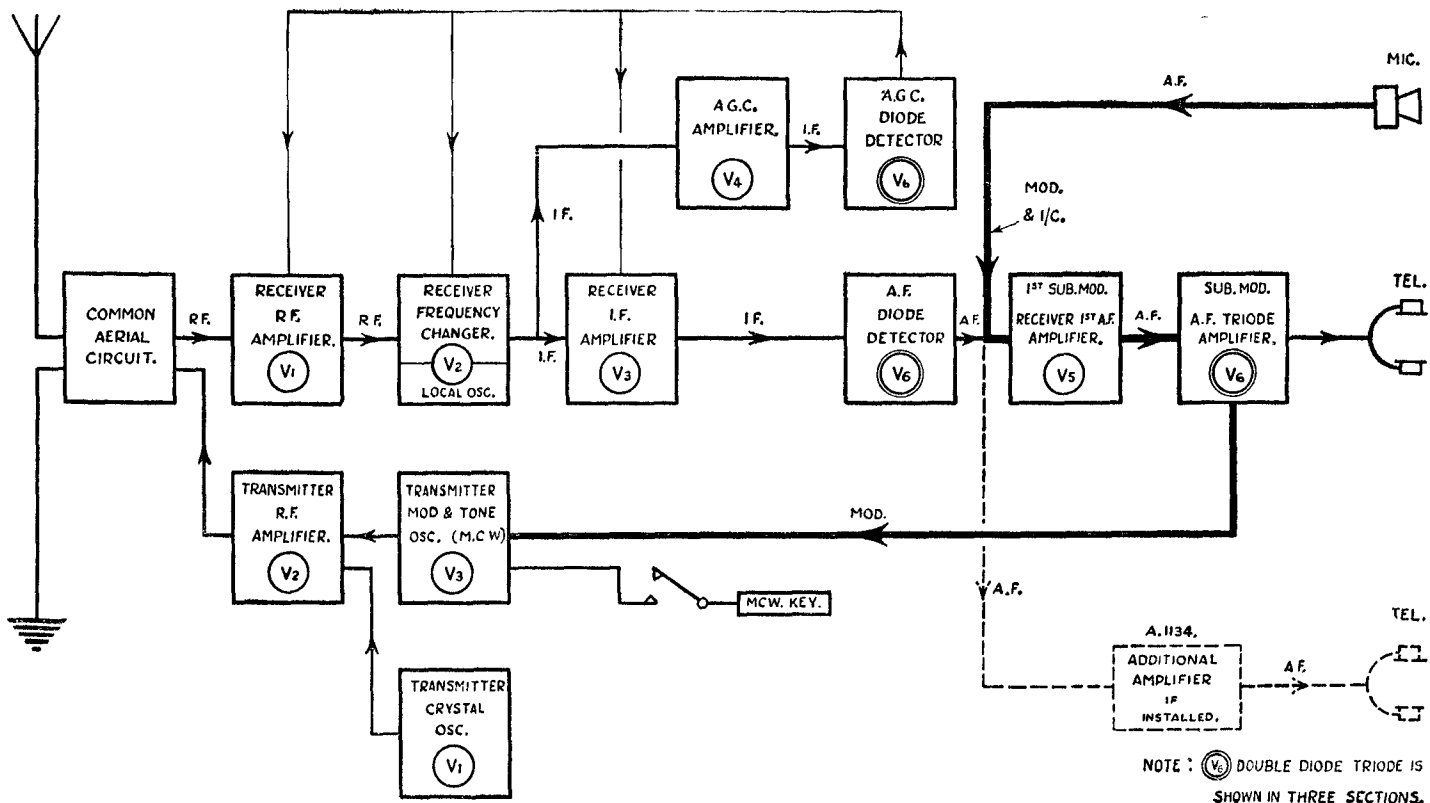

FIG. 5A.—BLOCK SCHEMATIC T.R. 1196
**7. Circuit Arrangements** (Fig. 5A).—*Transmitter unit.*—A crystal controlled Pierce oscillator drives an anode and screen modulated class "C" R.F. amplifier. An electro-magnetic microphone is used; the output from the microphone is amplified before feeding to the modulator valve, by the last two A.F. stages of the receiver (not by A.1134).